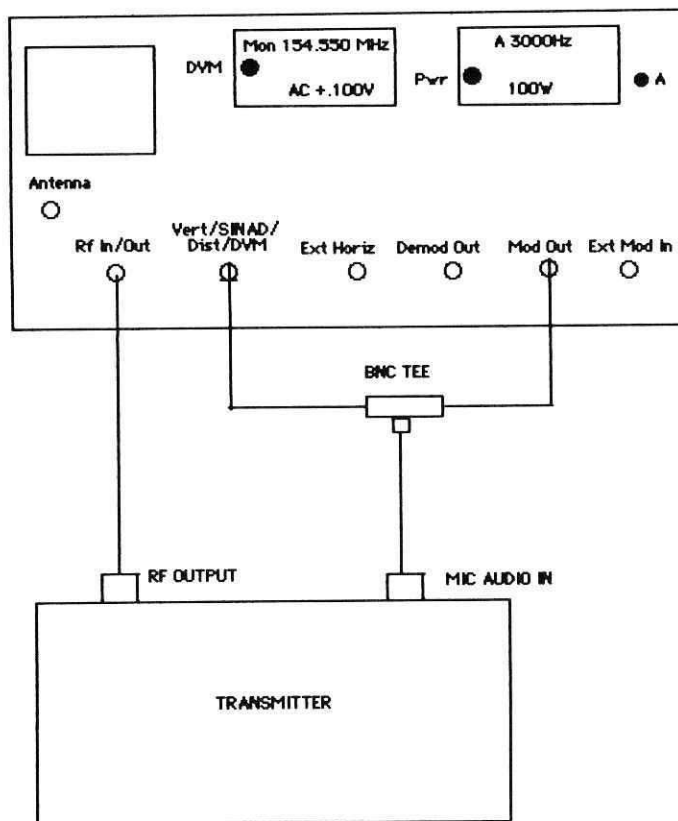

FIGURE 5.7—TRANSMITTER AUDIO FREQUENCY RESPONSE
1. As shown in Figure 5.7, connect the service monitor's "RF In/Out" port to the transmitter's RF output and the "Vert/Sinad/Dist" input jack to the "Mod Out" jack through a BNC tee connected to the transmitter's microphone audio input. Disable PL and DPL.